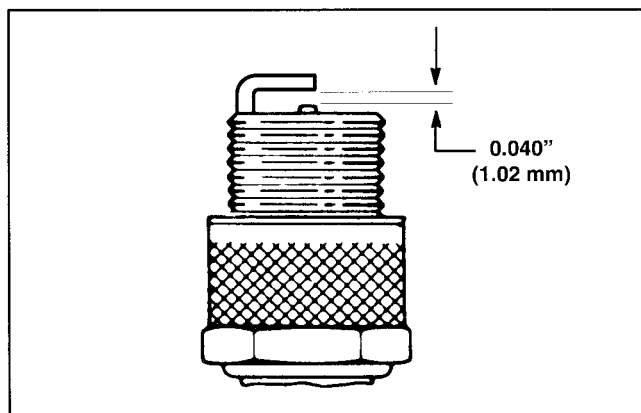

Figure 17
4. Set air gap between center and side of electrodes at 0.040 of an inch (1.02 mm) (Fig. 17). Install correctly gapped spark plug w/gasket seal, and tighten plug to 30 ft–lb (40 Nm). If torque wrench is not used, tighten plug firmly.